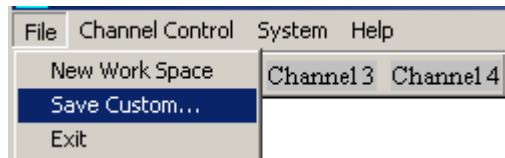

Figure 3-23. Save Custom command
- 2 Select **File > Save Custom** (Figure 3-23).